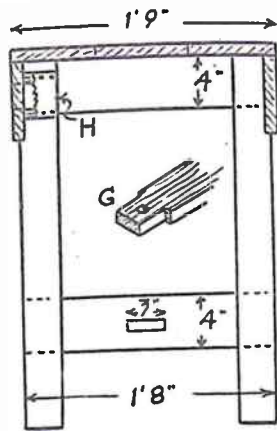

Fig. 2
Between the lower end rails a stretcher bar (F) is to be fitted. This is cut to the length given in the cutting list and should be laid across the rails. Mark off on it the distance between the rails, and from there to each end reduce the width to 3ins. as at (G) in Fig. 2. In the centre of the rails cut out a slot $\frac{1}{2}$ in. by 3ins. for these reduced ends to fit in. A square hole is cut in these extended ends, the outward sides of which should be cut through slightly sloping, as a
move simultaneously. Where the guide moves over the leg of the bench, nail a 1in. square strip of wood 3ins. long, above and below it to the leg, and cover both with a piece of board as at (H) in Fig. 2, to box the guide in, as it were. A paste of blacklead and tallow, well rubbed in, and also on the bench screw, will greatly facilitate an easy action of the vice. Also to the inside of the screw block, which is, of course, screwed to the back of side piece (B) beforehand. Now nail the crossbars across the sides. Cut the wood to length forming the bench top. If you can get tongued and grooved boards for this all the better, otherwise the boards should be glued edge to edge. If the latter, cramp them up on the floor, not the bench, or they may stick to the end cross rails. Fix the top on with nails or screws to the sides and crossbars only, not the